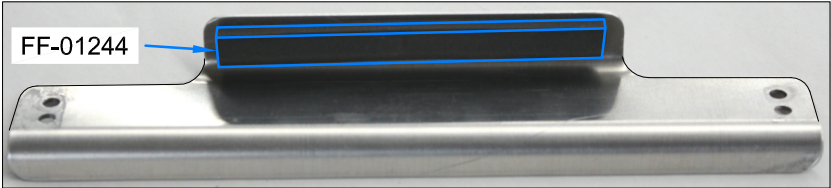

FIGURE 3: F-01201S-1 (ES ETX900)
Step 3: (ETX900 only) Fabricate one FF-01244 Battery Retainer Cushion by cutting a 4.5 in. [114.3 mm] length of VA-204 SEAL STRIP. Install the FF-01244 as shown in Figure 3. Scuff and clean the aluminum surface for better seal adhesion.